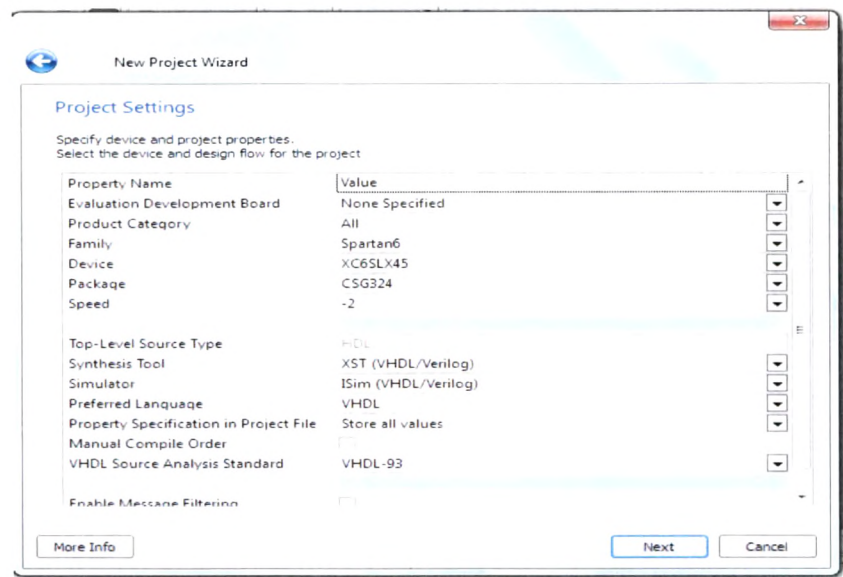

Figure A.3: New Project Wizard—Device Properties Page
3. Verify that HDL is selected as the Top-Level Source Type, and click Next. The New Project Wizard—Device Properties page appears as shown in Figure A.3.
4. In the window, select the device and project properties and change the settings according to FPGA board shown in Figure A.3.